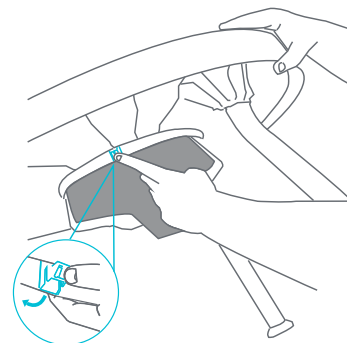

Fig. 2a
- To remove the seat, lift the tabletop to expose one of three tabs underneath. Detach one of the tabs by pushing it off the tabletop (Fig. 2a).